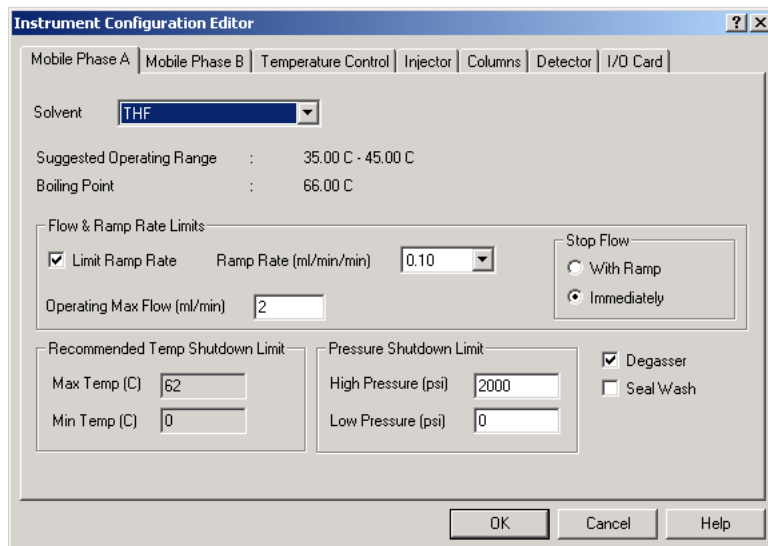

Figure 3-4 Mobile Phase Page
2. Select Setup > Instrument Configuration. The Instrument Configuration Editor dialog box appears, displaying the Mobile Phase A page (Figure 3-4).